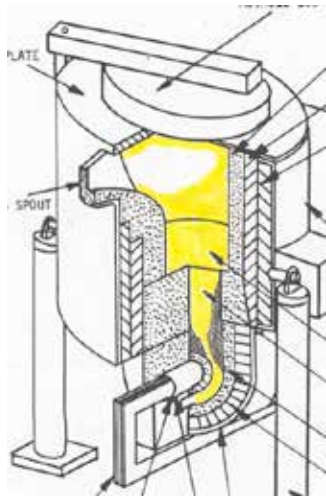

Figure 2: Slag Build-up in Inductor throat of Vertical Channel Furnace
**Channel Furnaces:** Another type of induction melting furnace is the channel furnace. The channel and the coreless induction furnaces mainly differ in the placement of the induction coil and the metal bath. In a coreless furnace, the coil completely surrounds the crucible. In a channel furnace, a separate loop inductor is attached to the main crucible, which contains the major portion of the metal bath. A vertical channel furnace may be considered a large bull ladle or crucible with an inductor attached to the bottom. Figure 2 shows how slag accumulates over time in the bottom inductor loop or throat area